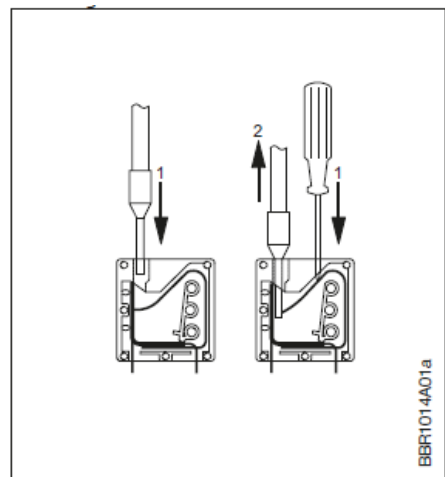

Fig. 3-9:
- The connection terminals are spring loaded and the stripped wire can be easily inserted into the terminal by carefully pushing the wire into the terminal without using tools. Alternatively, the terminal spring can be loosened by pressing it lightly with a screwdriver or similar implement. See fig. 3-9.
- Wires can be removed by carefully loosening the terminal spring by pressing lightly with a screwdriver or similar implement. See fig. 3-9